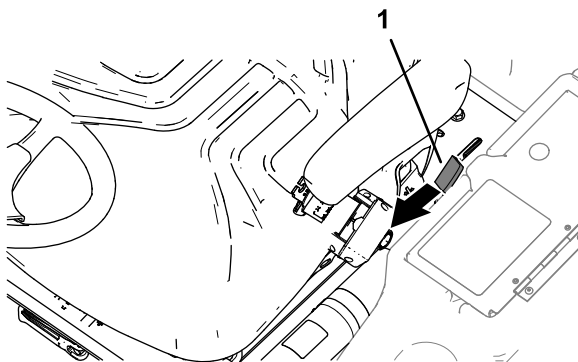

Figure 1
1. Move the platform-latch handle (Figure 1) toward the front of the machine until the latch hooks clear the locking bar.